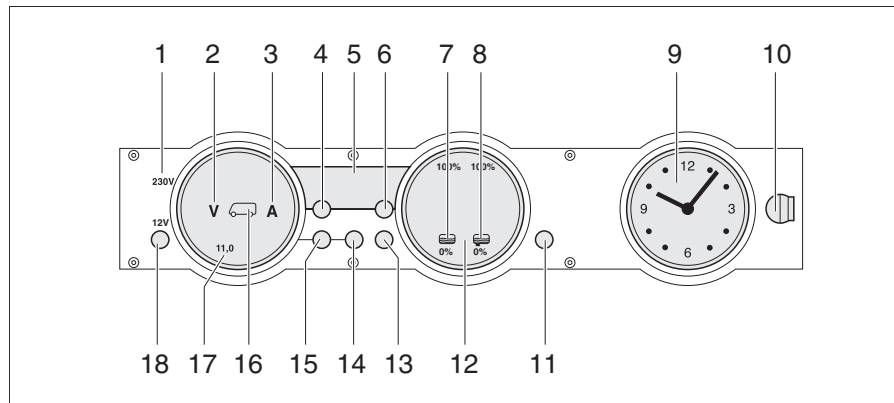

Fig. 245 Panel MP 20-T
The 230 V indicator lamp (Fig. 245,1) lights up whenever line voltage is available at the transformer/rectifier input.
The 12 V main switch (Fig. 245,18) switches the panel and the 12 V power supply of the living area on and off.
- Briefly press the "12 V" button (Fig. 245,18). The 12 V living area power supply is switched on. The "12 V" indicator lights up.
- ▷ If, after switching on, the "11.0" LED of the volt indicator and the "V" volt symbol (Fig. 245,2) in the batteries gauge (Fig. 245,17) flash, the voltage of the living area battery is too low. Charge battery.
- ▷ If, after switching on, the "12 V" indicator, the symbol for the living area battery (Fig. 245,16) and the "V" volt symbol (Fig. 245,2) flash three times, battery separation is activated. Deactivate battery separation.
- Briefly press the "12 V" button (Fig. 245,18). The 12 V living area power supply is switched off. The "12 V" indicator goes out.
- Press button for living area battery (Fig. 245,14) and hold it down for approx. 10 seconds. The "V" volt (Fig. 245,2) and "A" ampere (Fig. 245,3) symbols flash three times. The living area battery is disconnected from the 12 V power supply.
- Press the "12 V" button (Fig. 245,18) and hold it down for approx. 5 seconds. The "V" volt symbol (Fig. 245,2) flashes three times. The living area battery is connected to the 12 V power supply. The indicator lights up after approx. 2 seconds.
- Press button for living area battery "🔋" (Fig. 245,14). The "V" volt symbol (Fig. 245,2) lights up. Depending on whether the battery is being charged or discharged, the "A" ampere symbol lights up white or red respectively. The battery voltage and current of the living area battery are displayed using the LEDs in the gauge.
- Press button for starter battery "🔋" (Fig. 245,15). The "V" volt symbol (Fig. 245,2) lights up. The battery voltage of the starter battery is displayed using the LEDs in the gauge.
- Press the tanks button "" (Fig. 245,13). The water tank "" (Fig. 245,7) and waste water tank "" (Fig. 245,8) symbols light up. The fill level of the water tank (left-hand scale) and the waste water tank (right-hand scale) are indicated using the LEDs in the gauge.
The "V" volt symbol (Fig. 245,2) and the "11.0" LED flash as soon as the battery voltage falls below 11 V (measured during operation) and there is the threat of a total discharge.
The water tank symbol  (Fig. 245,7) or waste water tank symbol  (Fig. 245,8) flashes when the water tank is empty or the waste water tank is full.